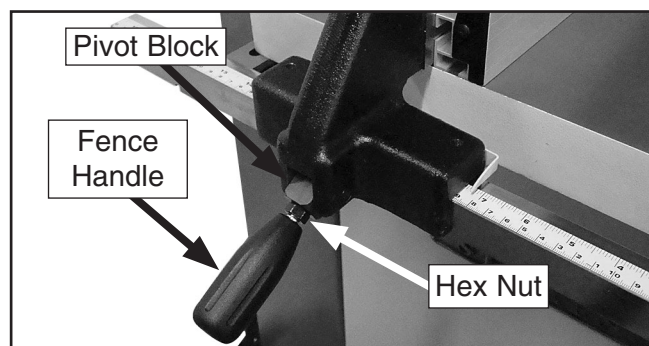

Figure 2. Fence handle components.
4. Tighten the hex nut on the fence handle against the fence pivot block (**Figure 2**).